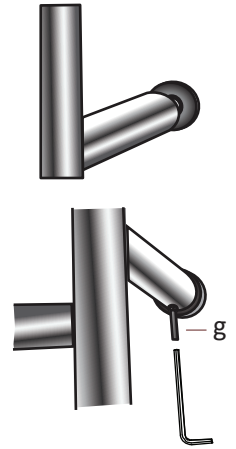

Figure 6
Step 6: Mounting main body onto wall (Figure 6)
- Take main body and position each of the four (4) legs on top of the Wall Posts **b**.